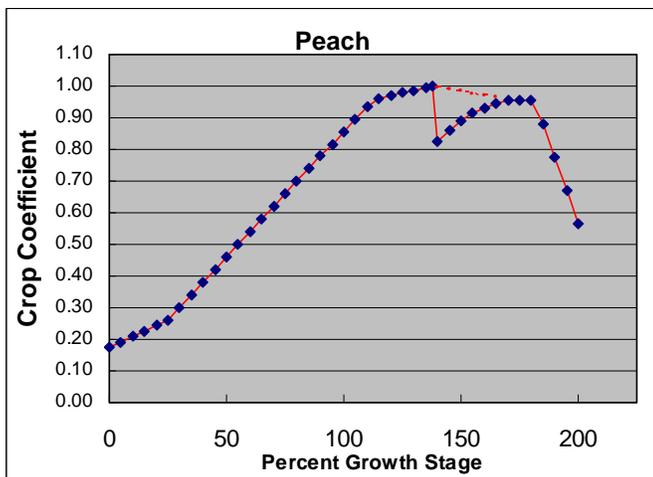

Figure 3. Crop coefficients for peach, based on an alfalfa reference ET_r . Adapted from Johnson et al. (2000).
The K_{crop} for peach is shown in Figure 3. At full bloom (Growth Stage = 0), a peach orchard is using about 20% of the amount of water used by the alfalfa reference crop. Water use increases gradually as the canopy develops until the full canopy is established (growth stage = 110) when water use is 95% of a reference alfalfa crop. Water use increases slightly during fruit ripening, then drops below 90% after fruit harvest (growth stage = 140). Water use increases again during the late season then declines during leaf senescence.
- Crop coefficient is 0.98 (Growth stage = 130, from Figure 3).